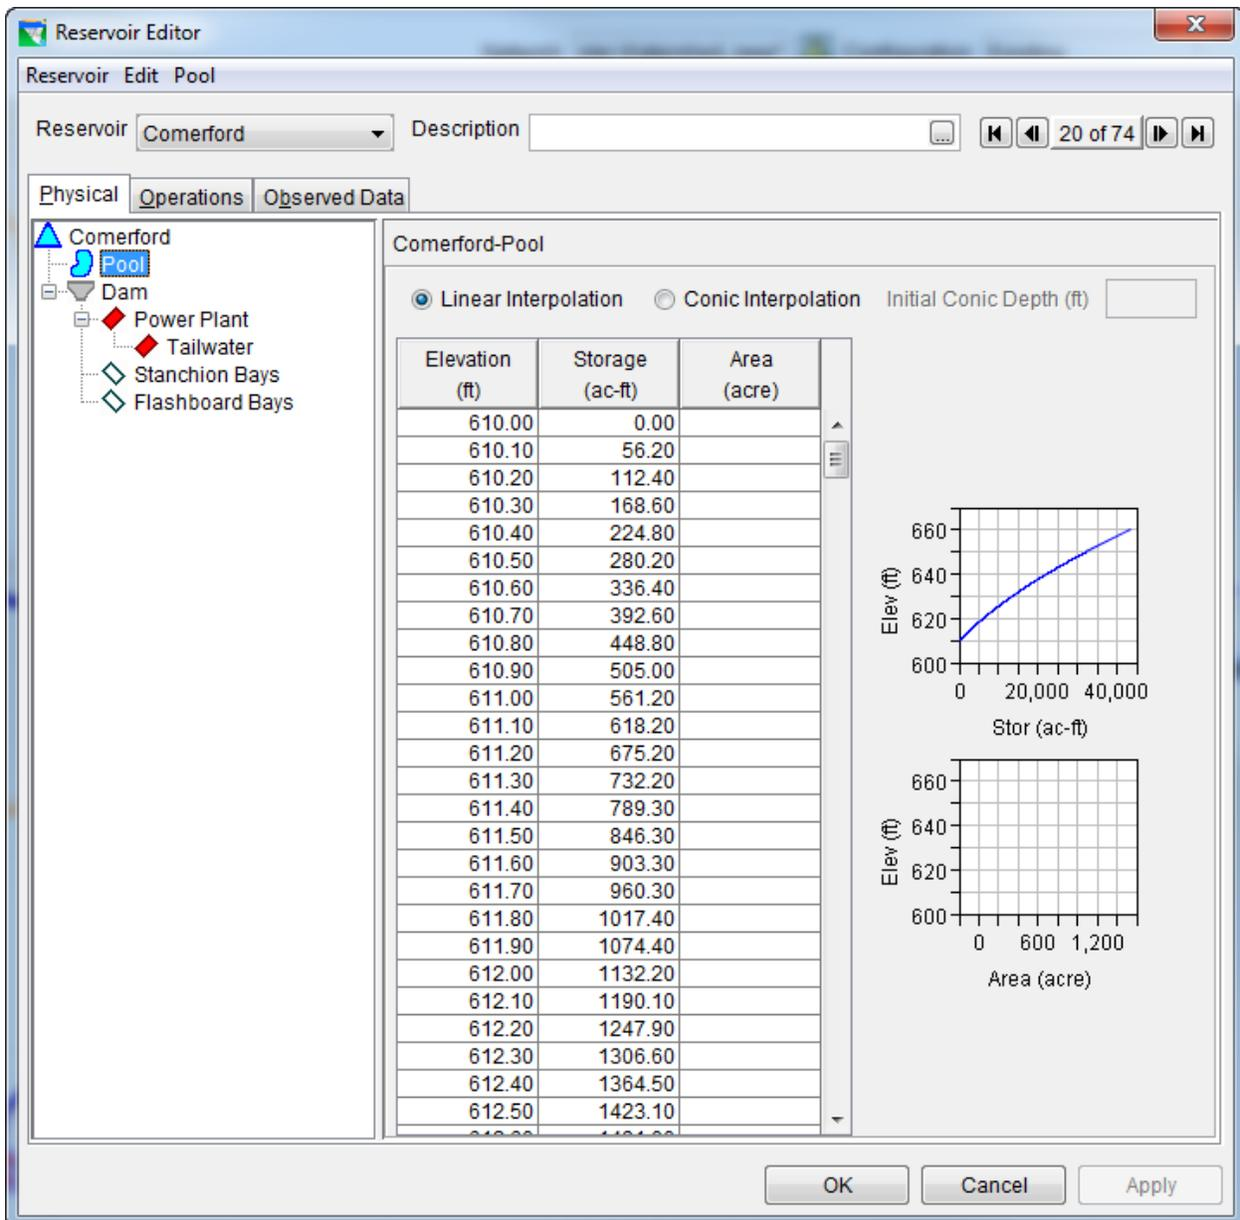
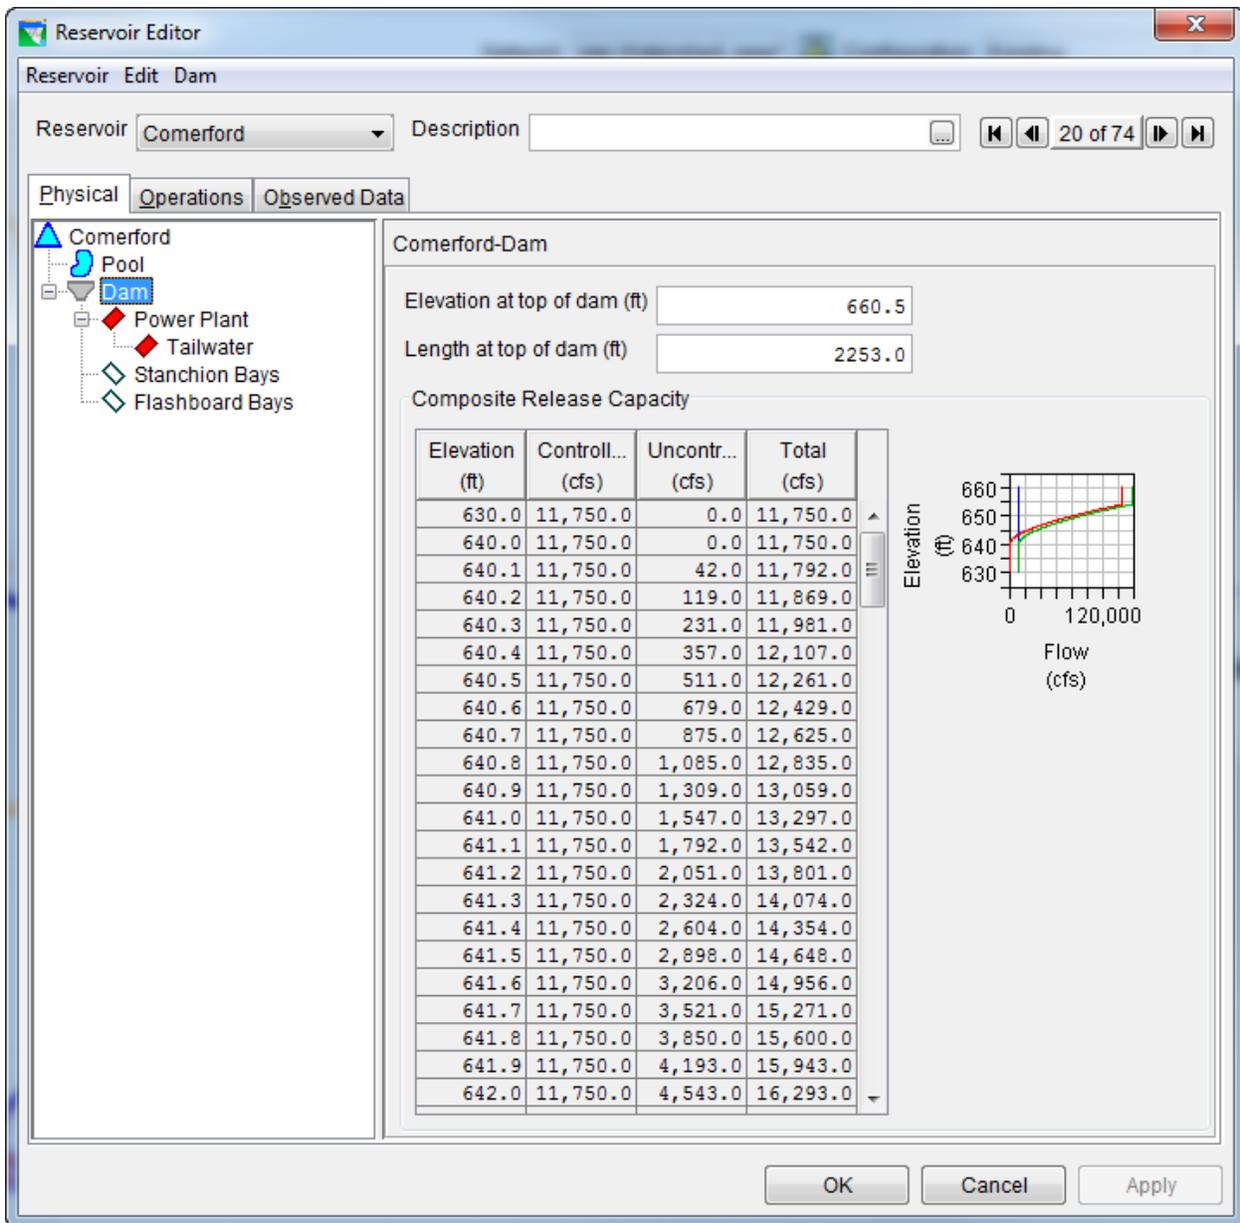

Figure 3: Reservoir Editor: Physical Tab -- Pool
Figure 4: Reservoir Editor: Physical Tab -- Dam
The physical characteristics of the reservoir are separated between the Pool and the Dam in the HEC-ResSim model. The elevation-storage-area defines the pool as shown in Figure 320. The dam consists of three types of outlets: (1) uncontrolled stanchion Bays, and (2) uncontrolled Flashboard Bays, and (3) power plant as shown in Figure 4.